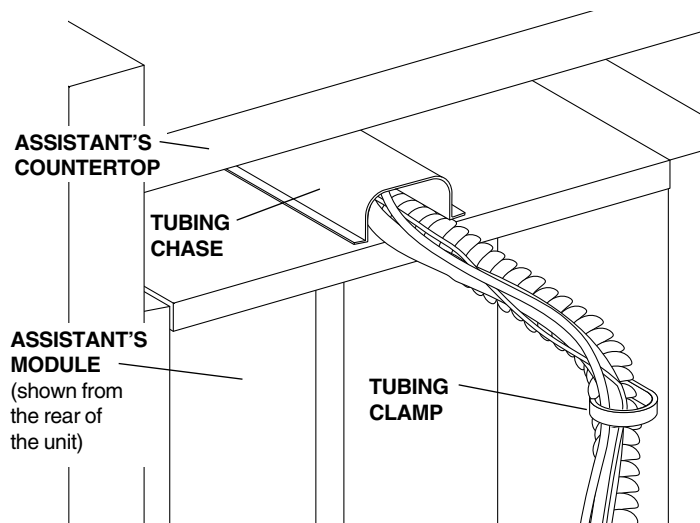

FIGURE 1
1. Channel the vacuum tubing, yellow with red stripe tubing (1/8" OD), yellow with red dash tubing (1/8" OD), red tubing (1/8" OD), and any additional tubings the configuration may require (see **NOTE**), from the rear of the unit, and through the tubing chase attached to the assistant's module (see *Figure 1*).
3. Place the tubing into the two tubing clamps (one clamp if the console has a computer option) (see *Figure 1*).